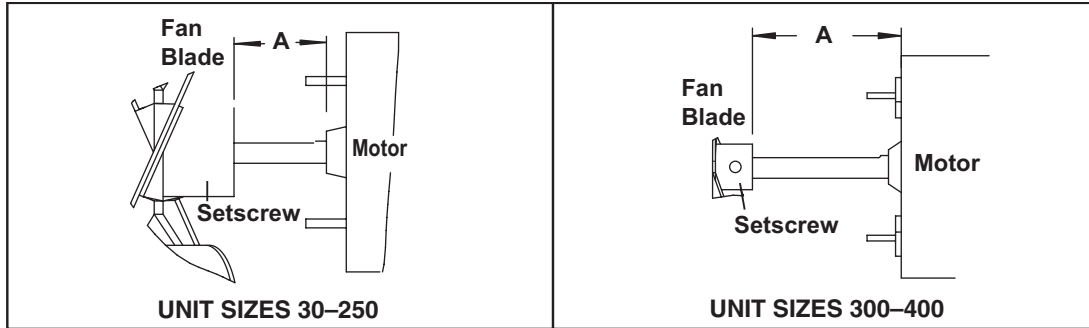

Figure 25. Fan Spacing
6. Ensure that fan blade is in proper position on shaft (see **Figure 25**) and that blades are properly spaced (refer to **Table 24**).
*See Figure 25 .
*See **Figure 25**.